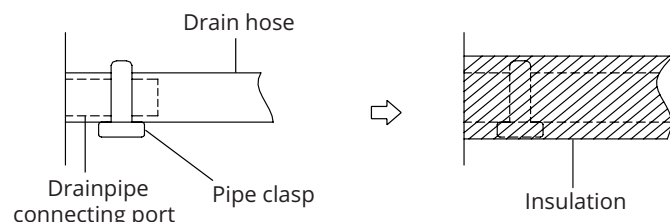

Fig. 5.1
2. Attach the mouth of the drain hose to the unit's outlet pipe. Sheath the mouth of the hose and clip it firmly with a pipe clasp. (See Fig 5.1)